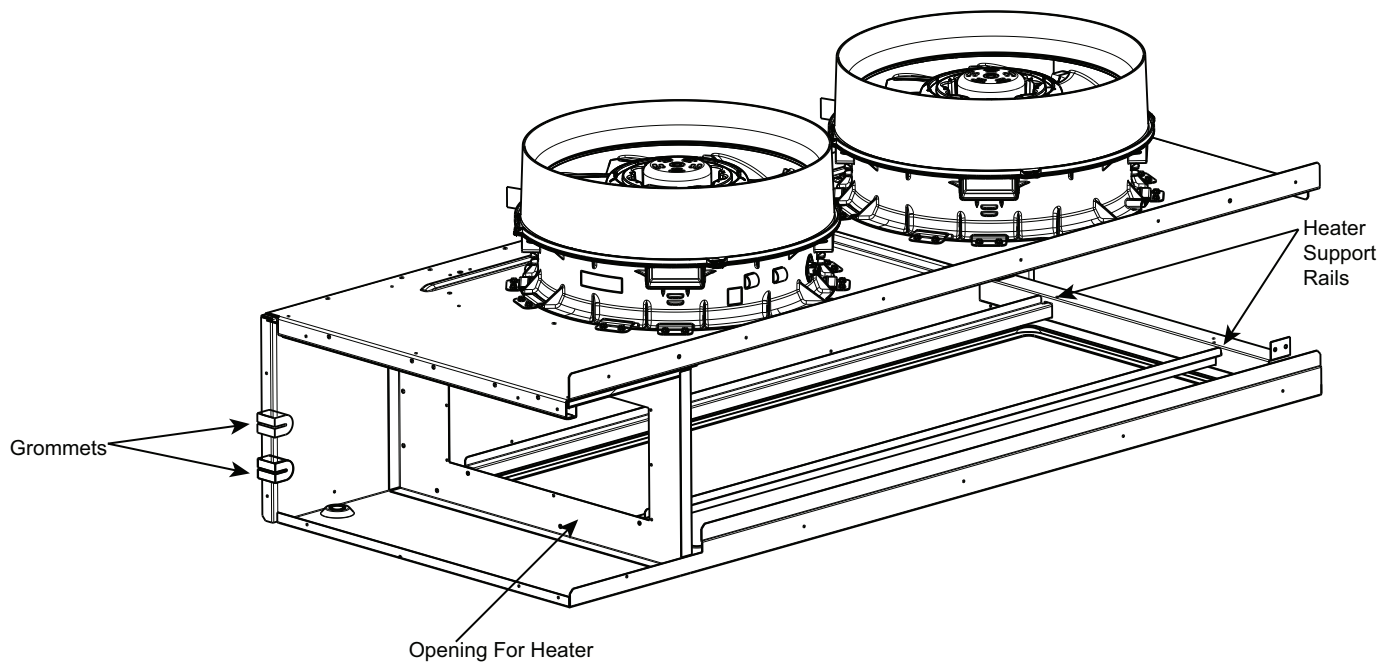

Fig. 49 — Opening for Electric Heater
4. Insert heater assembly through opening where block-off plate was previously removed. Let back end of heaters slide along support rails beneath fan deck. (See Fig. 49.)
6. Route heater power wires through grommets notches in vertical fan deck support. (See Fig. 49.) Continue routing wires under coil and filter support through the bottom notched section of the control box. Avoid sheet metal edges and any protruding screws.